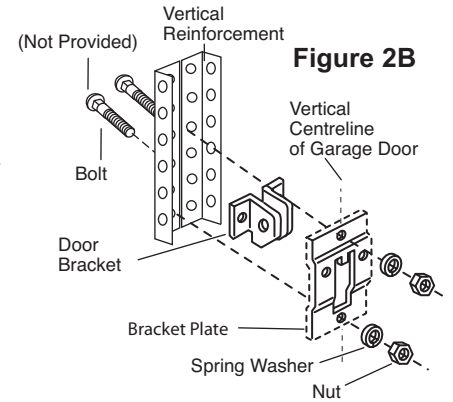

Figure 2B
- Alternately, use two 8mm bolts, spring washers and nuts (not provided) (Figure 2B).